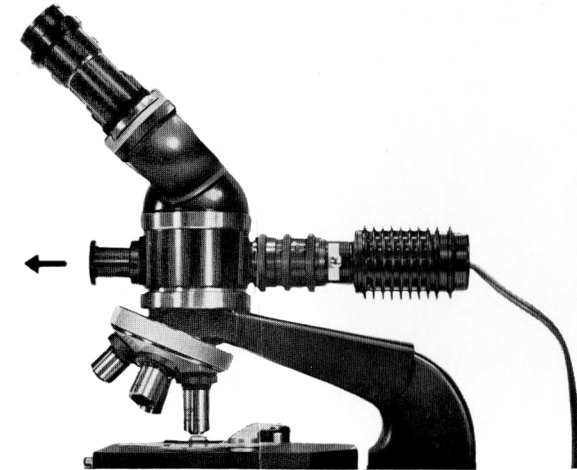

Fig. 4
For diasopic observation, it need not to remove the Illuminator; only draw outward the half-reflecting mirror holder as shown in Fig. 4, to bring the mirror out of the optical path.
- * The Illuminator permits also the Polarizing Attachment S-PO to be mounted on top (Fig. 4), thus making it possible to use the microscope as a completely equipped episcopic polarizing microscope.